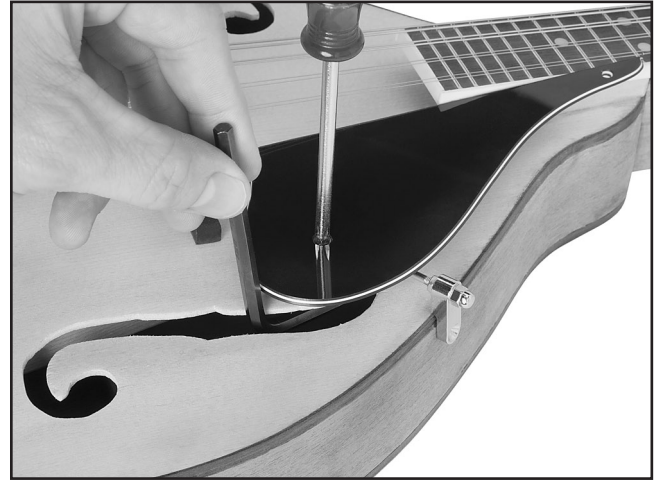

Figure 47. Tightening wood block.
5. Tighten the small wood block against the bottom of the mandolin using a hex wrench and screwdriver, as shown in **Figure 47**.